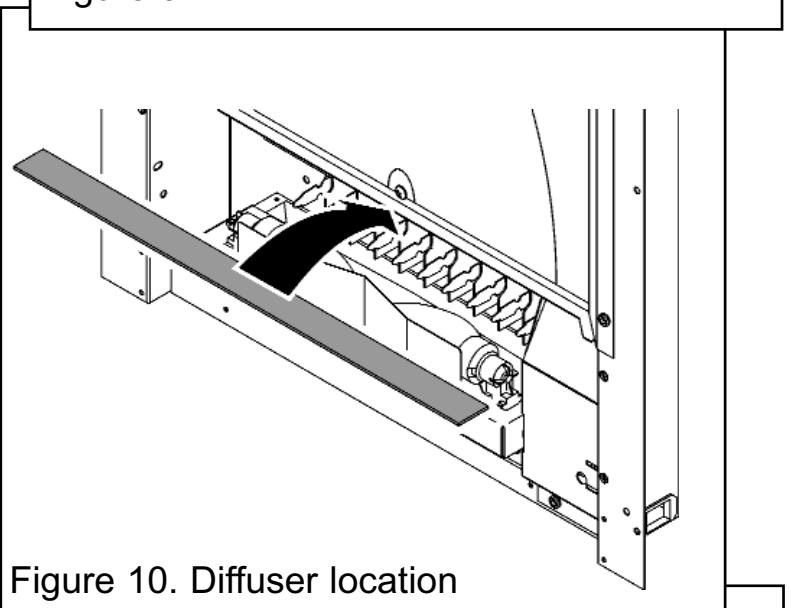

Figure 10. Diffuser location
1. Locate the diffuser on the ledge immediately below the screen (See figure 10).